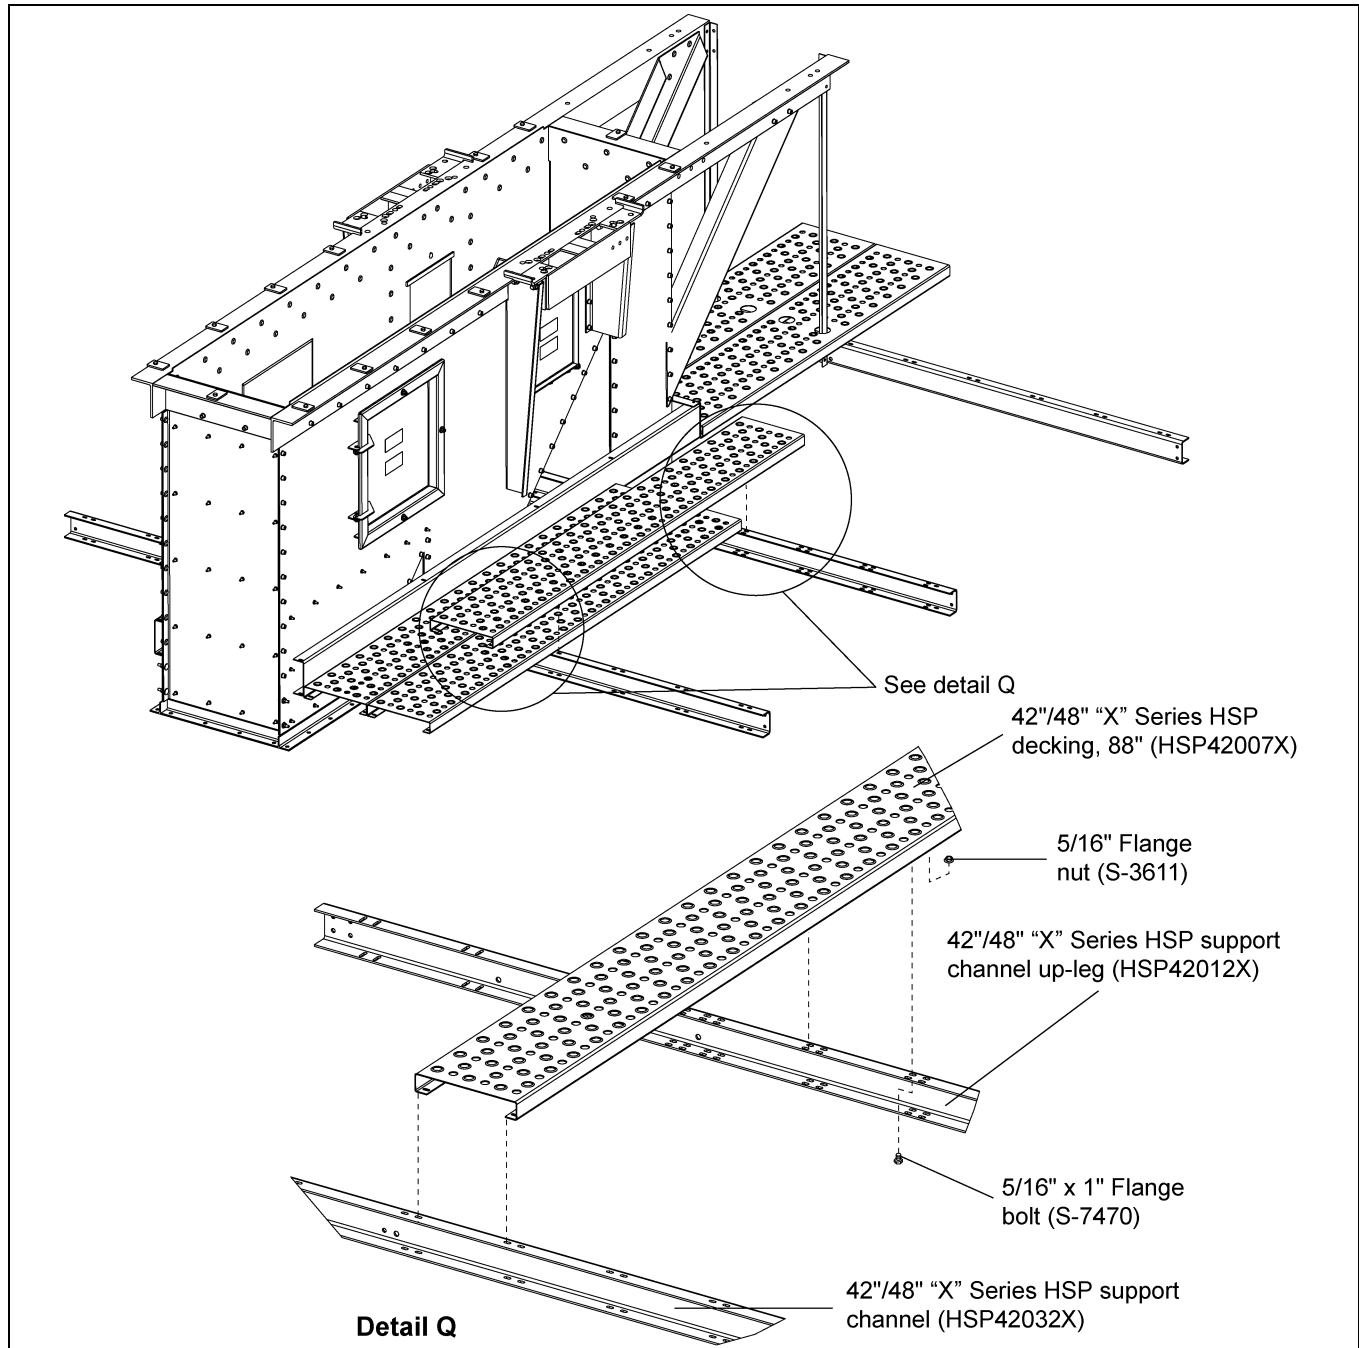

Figure 8H
1. Install five (5) planks of decking (HSP42007X) on the drive side at the down-leg end. **NOTE:** Be sure to install this section of decking by starting at the inside next to the toe board and working outward.
2. Fasten the decking to the support channels (HSP42032X and HSP42012X) using 5/16" x 1" flange bolts (S-7470) and 5/16" flange nuts (S-3611). (See Figure 8H.)